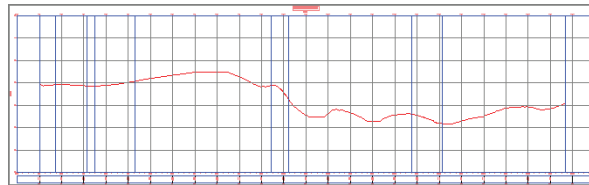

FIGURE 2.10 A profile created from an alignment data reference and a surface data reference
17. Click Create Profile View. Pick a point in the top-right viewport. A new profile is created that is the result of relating an alignment to a surface (see Figure 2.10). This profile represents the interaction among three different drawings.